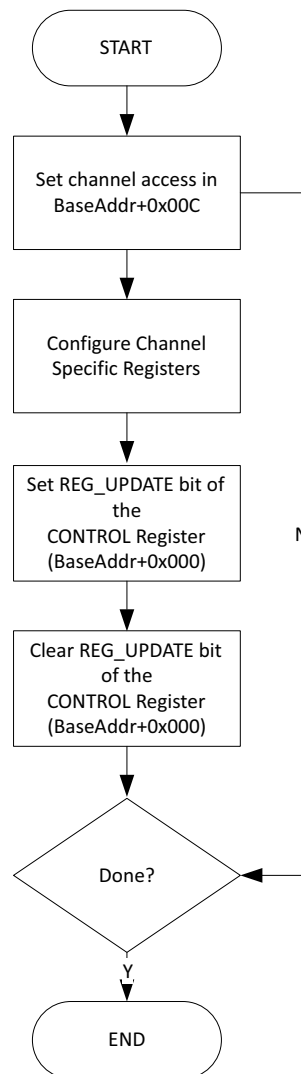

Figure 5: Channel Register Configuration Flow Chart
4. Repeat steps 1-3 for another channel or registers. See Figure 5.
4. Repeat steps 1-3 for another channel. See Figure 5.